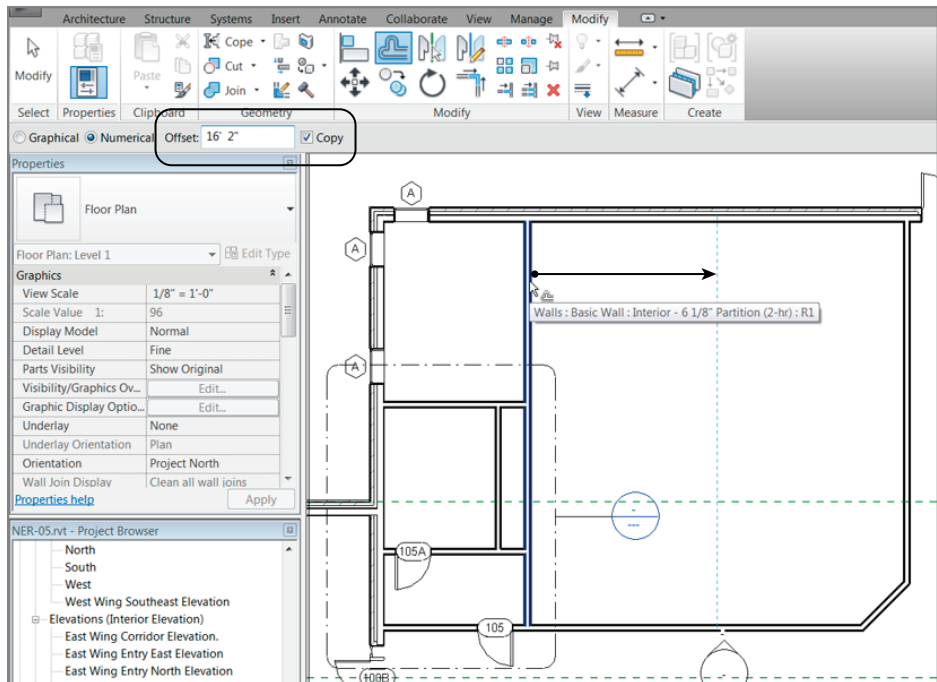

FIGURE 4.48: Choosing your options and picking the wall to be offset
1. Zoom in on the west part of the east wing. This is the area where the restrooms are located (see Figure 4.48). The objective is to offset the vertical wall that is to the right of the restrooms, to the middle of the open space.
2. On the Modify panel of the Modify tab, click the Offset button, as shown in Figure 4.48.
6. Hover your cursor over the wall to the right of the lavatory, as shown in Figure 4.48. A dashed alignment line appears to the right of the wall.